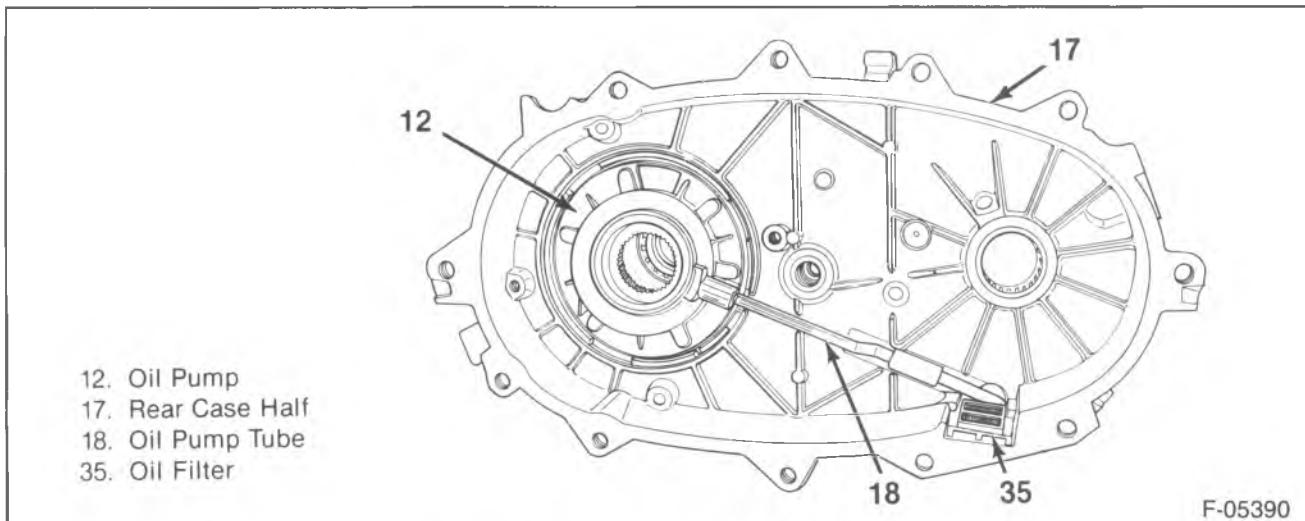

Figure 7—Pump Housing Installation
- 1. Oil pump (12), pickup tube (18), O-ring (14) and pump pickup filter (35) from the rear case half (figure 7).
- 2. Fork shift spring (52).
- 3. Retainer (snap ring) (23) from the front output shaft (21).
- 4. Mainshaft (19), chain (58), and driven sprocket (22) from the front case half (45) as a unit. Mode shift fork (54) and shift rail (48) will be removed with the mainshaft.
- 5. Retainer (snap ring) (41) from the mainshaft (19).